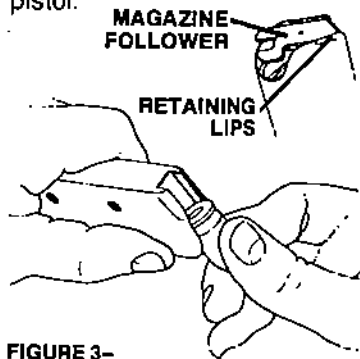

FIGURE 3—
- With open end uppermost, grasp magazine (appropriate to caliber) in one hand as illustrated in Figure 3. Place a round on magazine follower with base just forward of retaining lips. Press round down and back until base of round touches rear flat edge of magazine. Place next round on top of previous round and press down and back. Repeat until magazine is fully loaded.